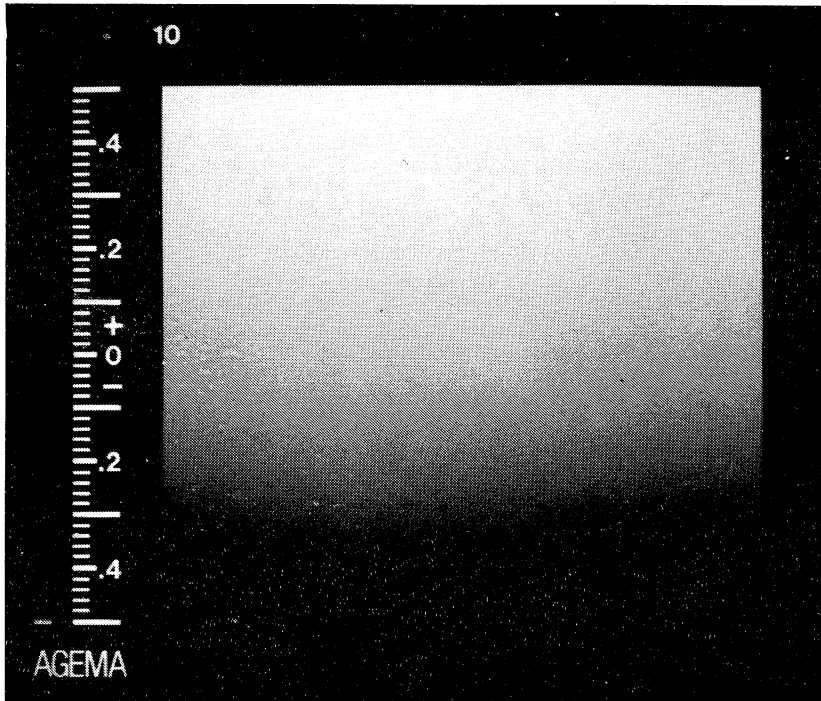

Fig. 3.4 Gray Scale Sample Picture
- (j) Compare the gray tone print with the display (Fig. 3.4). If necessary fine adjustments to the CONTRAST and BRIGHTNESS preset controls may be required. A small screwdriver included in the tool kit is required to carry out this operation. Clockwise rotation causes an increase of brightness or contrast. Counter-clockwise rotation causes a decrease of brightness or contrast. If adjustment is required a further test print should be carried out.